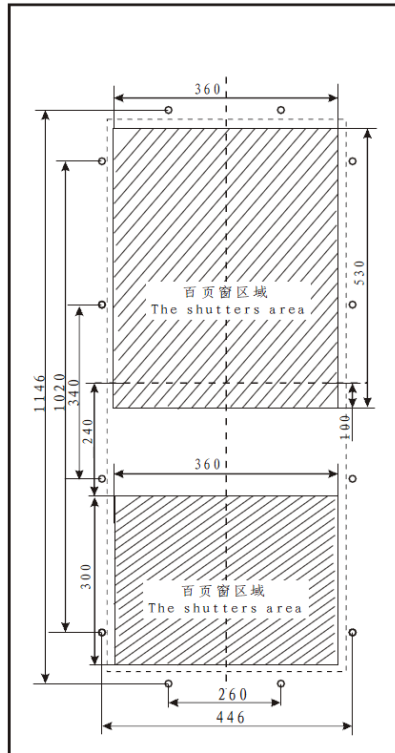

figure 2
- 3.1.2. select the right wall and According to the installation method （ side, door, half embedded ） in the panel of the installation out the cut line accordingly, as in figure （ figure2 ） .
选择正确的安装固定面，根据相应的安装方式（侧装、门装、半嵌入安装）在此面板上画出相应切开线，如图（figure2）